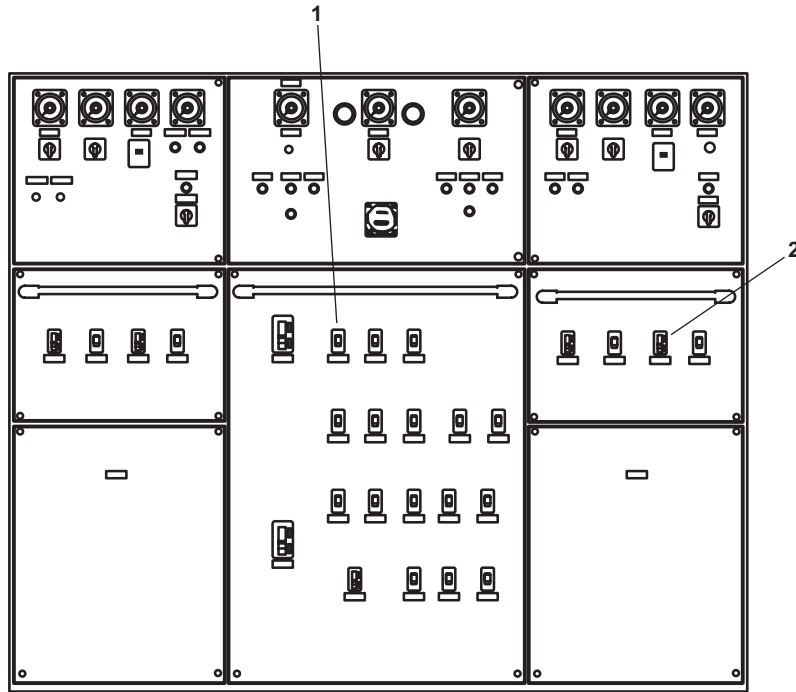

Figure 1. EOS Main Switchboard
- a. AUX MACH SPACE NO.2 PWR PNL NO.5 (figure 1, item 1)
- b. 3-25 KVA 1Ø XFMRS (figure 1, item 2)